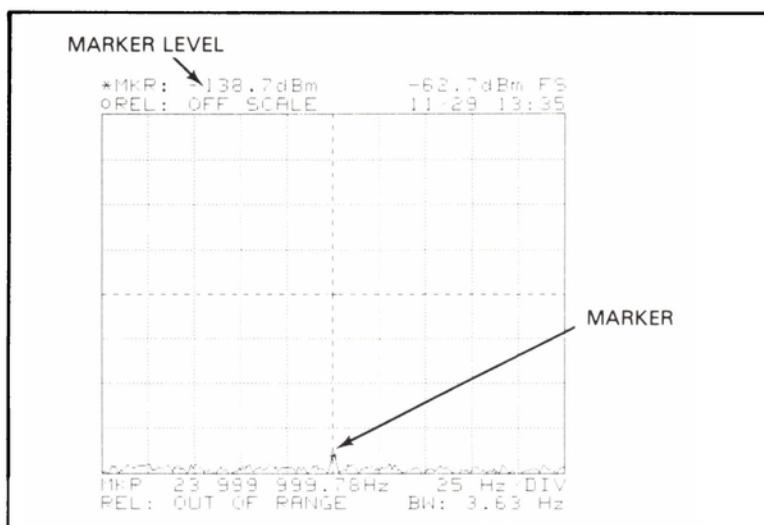

Figure 7-8. Noise Floor Test Sample Results
- f. Place the -hp- 3582A marker on the highest level signal (See Figure 7-8). The marker should be \leq -130 dBm. Record the measured level on the Performance Test Record card.